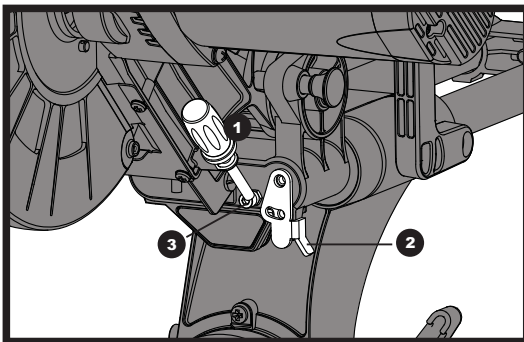

Fig 26
- 2) While holding the upper arm in that position, turn the stop knob (1) until it touches the stop plate (2).
- 3) Recheck the blade depth by moving the cutting head front to back through the full motion of a typical cut along the control arm. (See fig. 26)
- 1) Loosen the depth control screw locknut (3).
- 4) Recheck the blade depth by moving the cutting head front to back through the full motion of a cut along the control arm. If the blade touches the inside of the control arm, readjust the setting. Tighten the locknut when the correct setting is achieved.(See fig. 26)